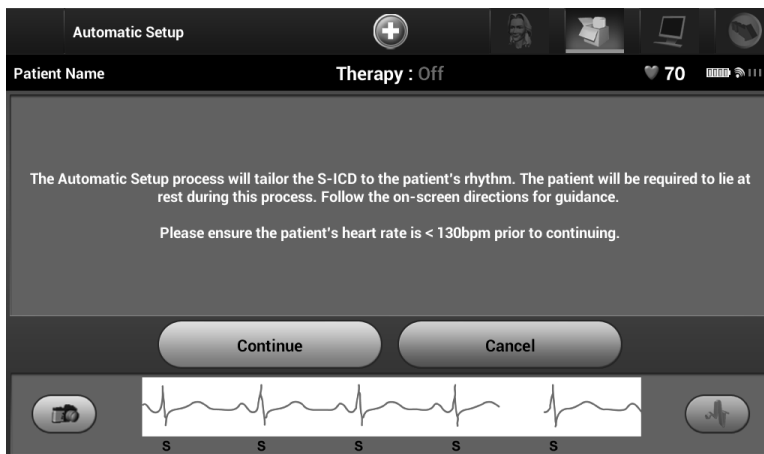

Figure 23: Automatic Setup screen
3. Select the Auto Setup button on the Navigation Bar. The Automatic Setup screen appears (Figure 23).